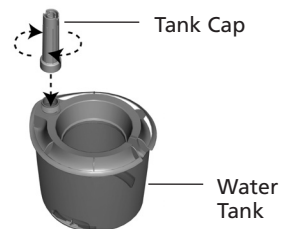

Figure 5
8. Replace the Tank Cap by screwing it back onto the Water Tank clockwise. Securely tighten the Tank Cap and make sure it is properly sealed. See Figure 5.